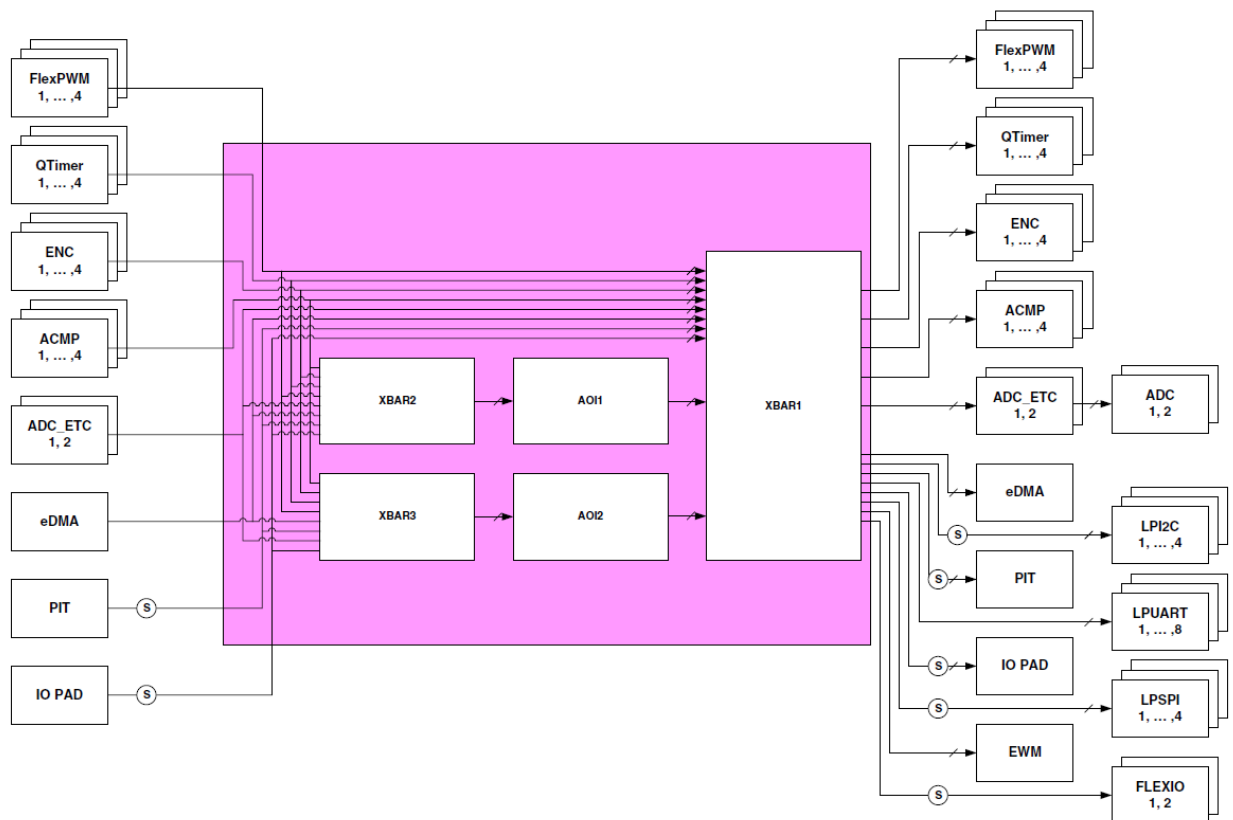

Figure 1. Cross trigger network
i.MXRT integrates a new on-chip cross trigger network, as shown in Figure 1.